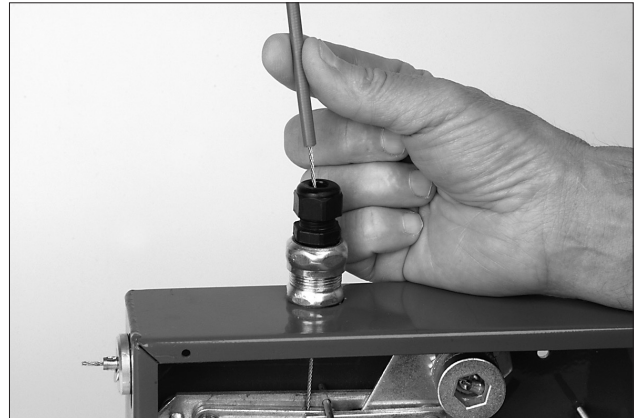

FIGURE 4-46
8. Thread the wire rope through the flexible conduit. See Figure 4-46. (If a splice is required in the flexible conduit, proceed to “Splicing Installation Instructions.”)